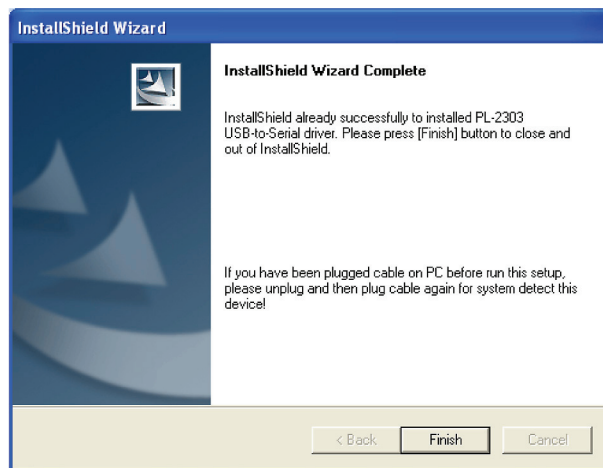

Figure 3-5. Installation complete screen.
2. When the screen shown in Figure 3-5 appears, click “Finish.”